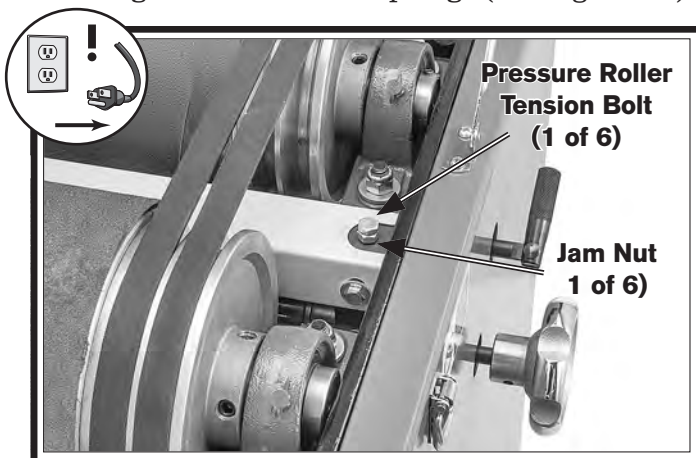

Figure 47. Location of pressure roller tension bolts.
3. Starting with the front pressure roller, loosen jam nuts on both sides, and rotate tension bolts counterclockwise until they no longer touch tension springs (see **Figure 47**).